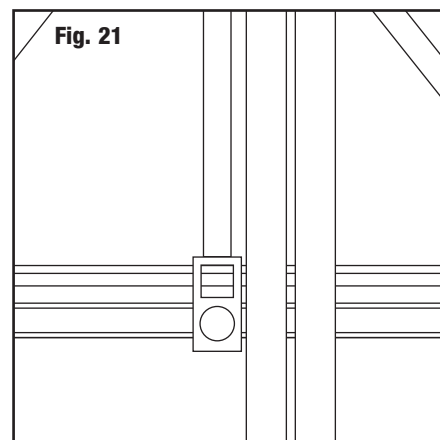

Fig. 21
4. Adjust clamp to be parallel with guide bars (Fig. 21).